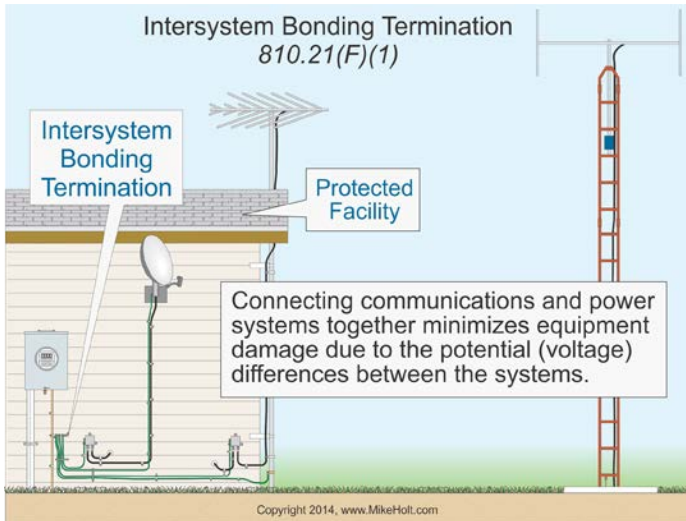

Figure 810-15
- Bonding all systems to the intersystem bonding termination helps reduce induced potential (voltage) differences between the power and the radio and television systems during lightning events. Figure 810-15